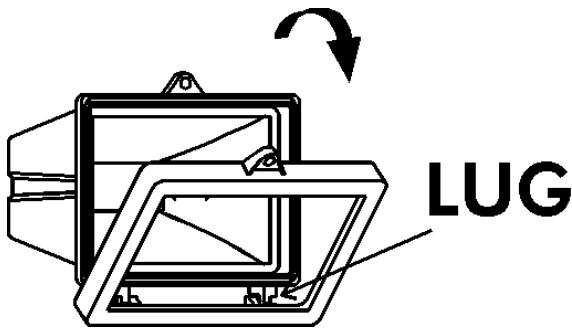

FIGURE 4
- (4) Raise front surround. Lift off retaining lugs (FIGURE 4).